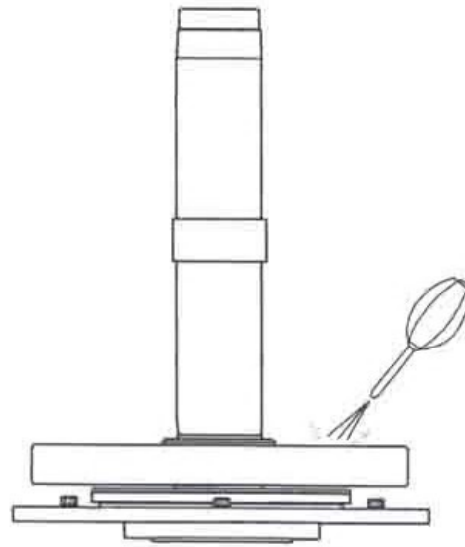

Fig. 28
6. The primary should be placed on the desk and blow particles from the surface by a blower. Refer to the fig. 28.